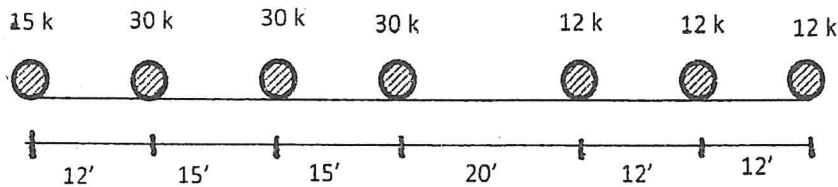

Fig. 9
- (b) Calculate the maximum shear at a point 25 ft from the left support of a simply supported beam of 100 ft span for a series of concentrated loads as shown in Fig. 9.